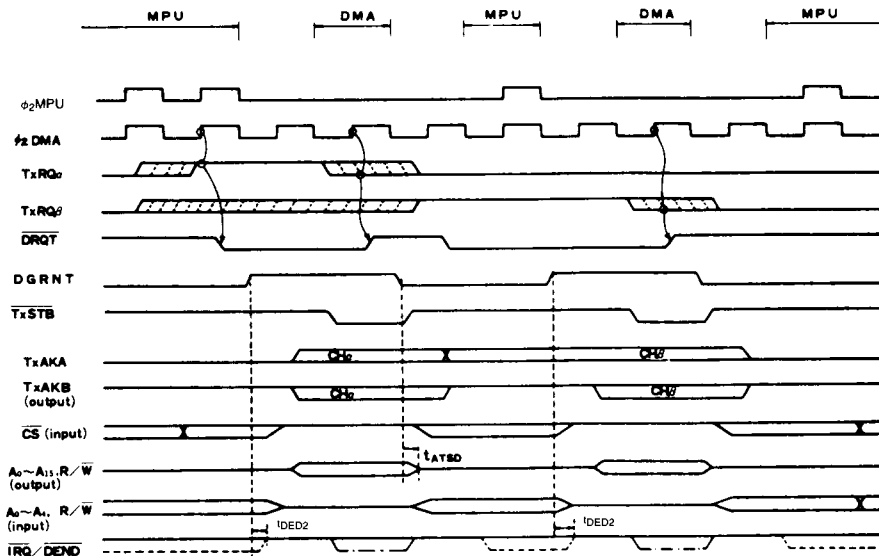
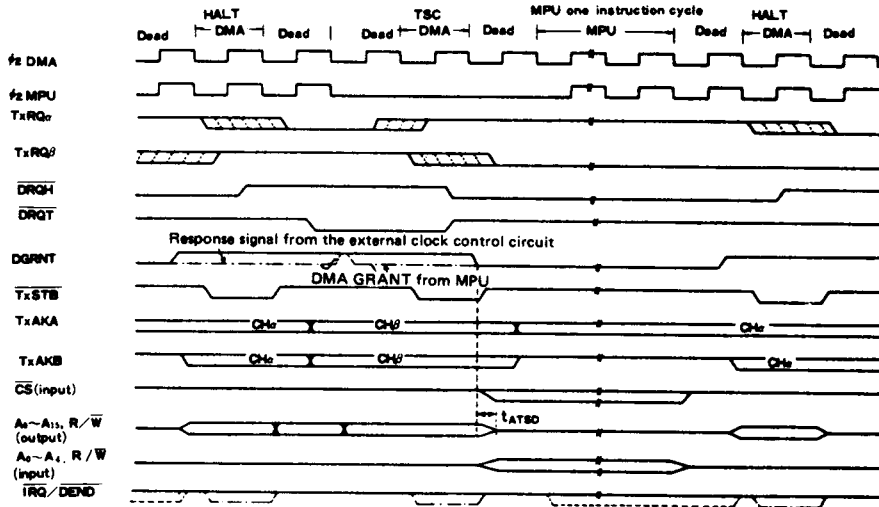
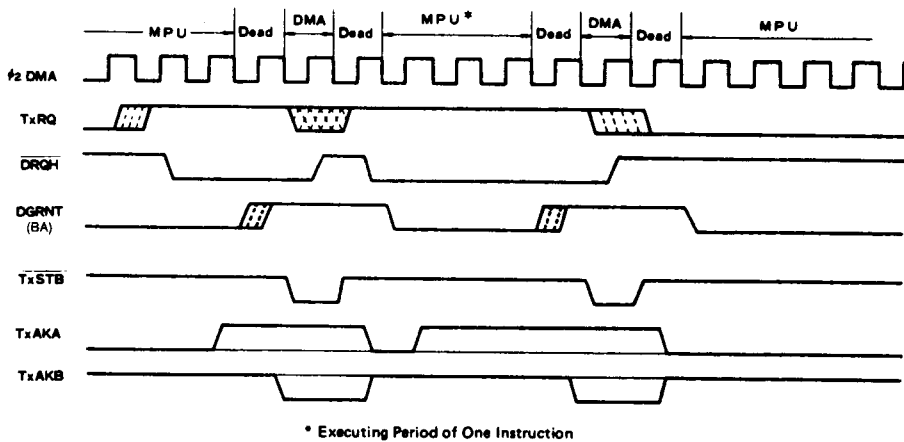

Figure 24 Channel Change (TSC Mode \rightarrow TSC Mode)
Figure 25 Channel Change (HALT Mode \rightarrow TSC Mode \rightarrow HALT Mode)
Figure 26 Successive 2-byte Transfer of One Channel (HALT Cycle Steal Mode)
- (2) From TSC mode to TSC mode (Fig. 24)
- (3) From HALT mode to TSC mode
- (4) From TSC mode to HALT mode
- (Fig. 25)
Both in the case of HALT → TSC mode and in the case of TSC → HALT mode, DMA operation timing is based on the same idea as the above two kinds of mode change. (In detail, see Fig. 25).
The timing in the case where the next byte is transferred without changing the channel is shown in Fig. 26. This is the case of HALT → HALT mode. In this case, the bus control returns to MPU, before the next byte is transferred. In the case of TSC → TSC mode, its timing is almost the same as than in Fig. 24, that is, after 1-byte transfer has completed, MPU executes the Instruction Cycle for one clock and then DMAC executes 1-byte transfer again.